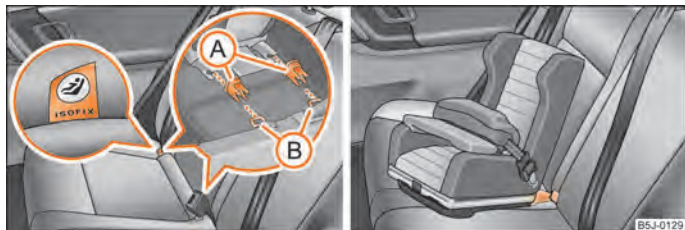

Fig. 116 Push locking eyes (ISOFIX system)/ISOFIX child seat into the installed mounting funnels
- Insert the mounting funnels (A) onto the locking eyes (B) between the seat backrest and the seat cushion ⇒ fig. 116.
- Push the notched arms of the child seat into the locking eyes until they are heard to lock in place ⇒ fig. 116.